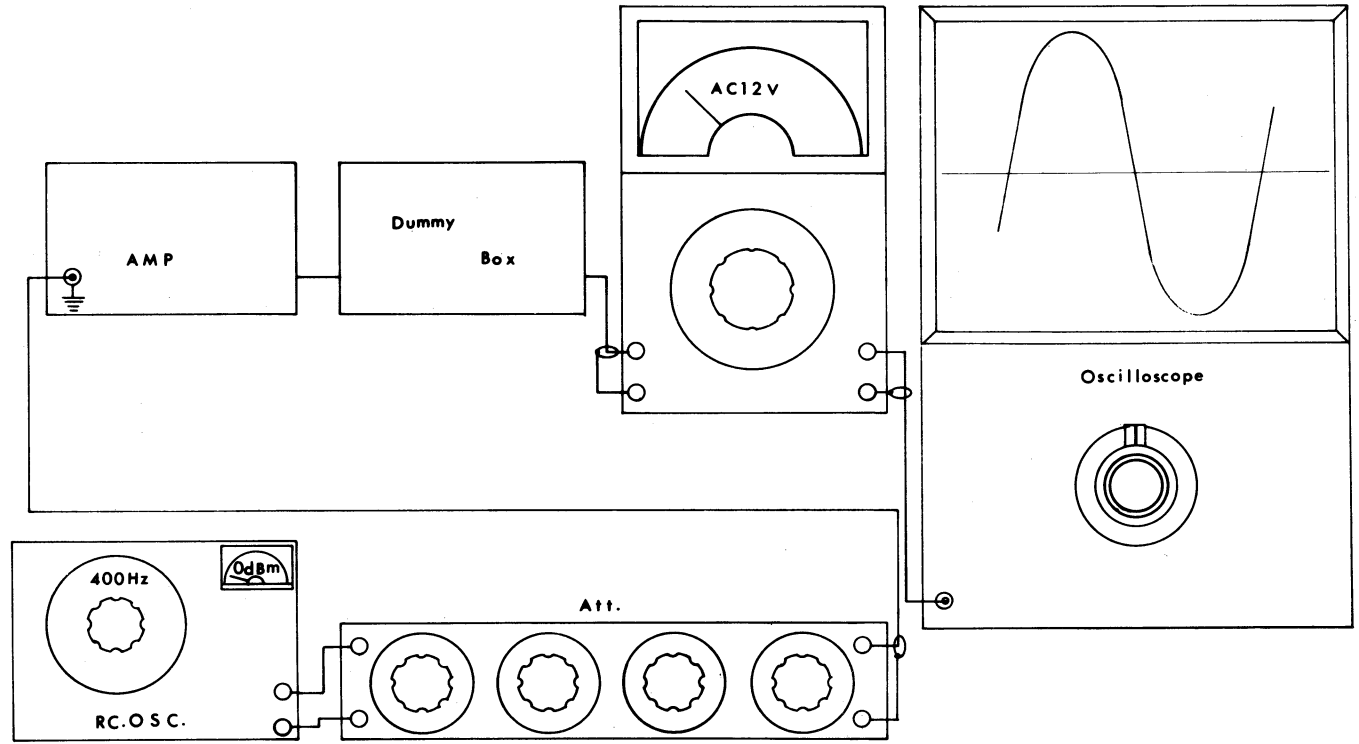

Fig. 43
- (1) The amplifier is connected to the projector through the tool P029.
- (2) The instruments should be connected as shown in Fig.43.